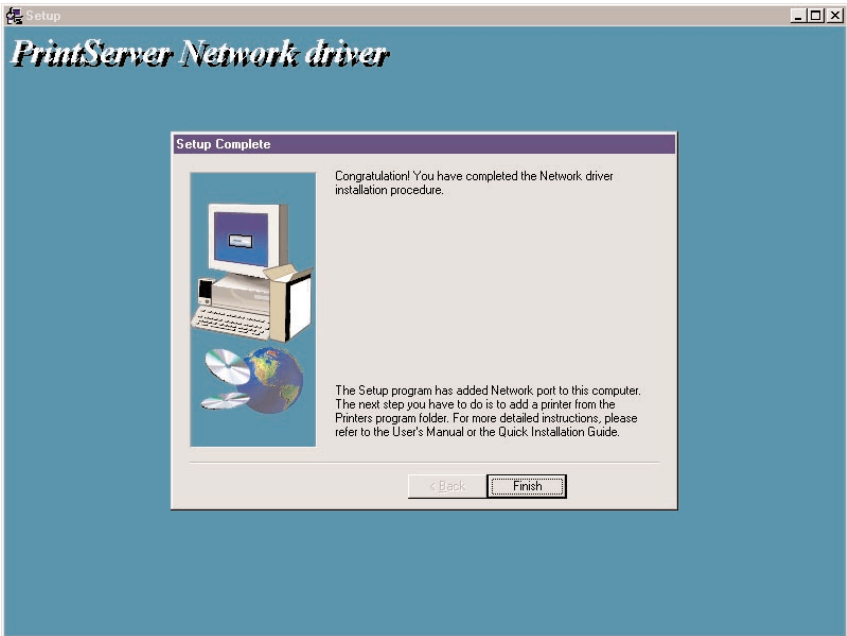

Figure 4-23. Setup Complete screen.
9. Finally, the Setup Complete window (Figure 4-23) appears. The Client Installation procedure is finished.